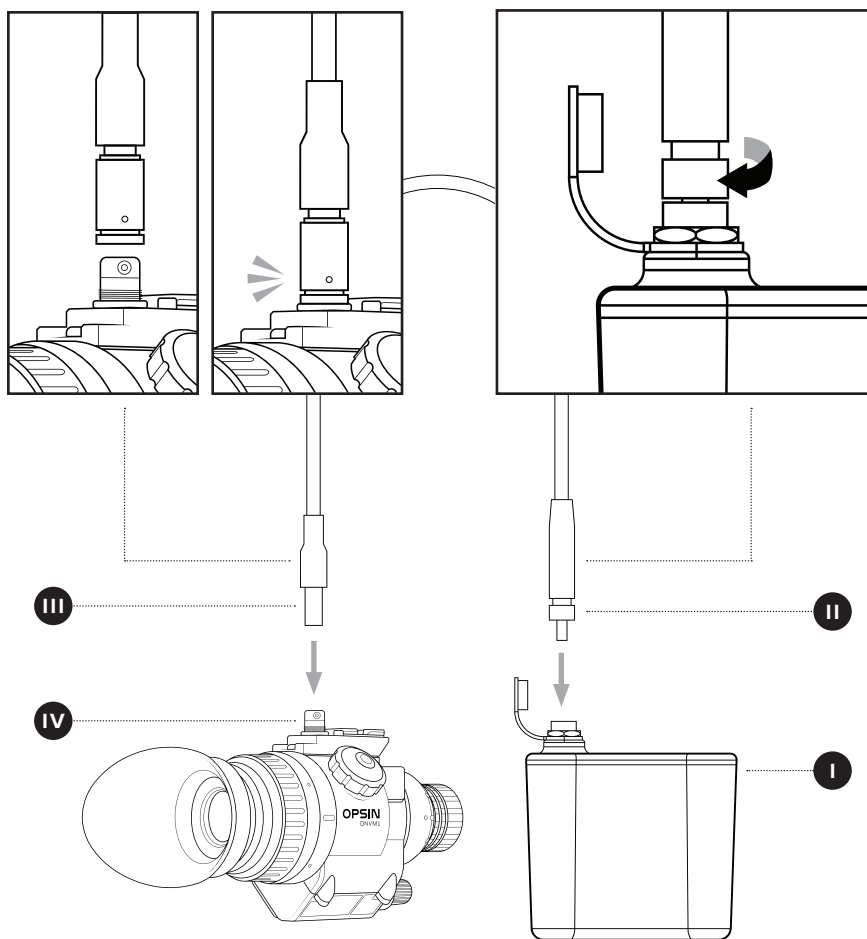

FIGURE 3:
4. Refer to **FIGURE 3**. Attach the **CAMERA CABLE CONNECTOR** to OPSIN. To properly make the connection the white dot on the locking connector body should align with the white dot on the **POWER CABLE CONNECTOR** body.